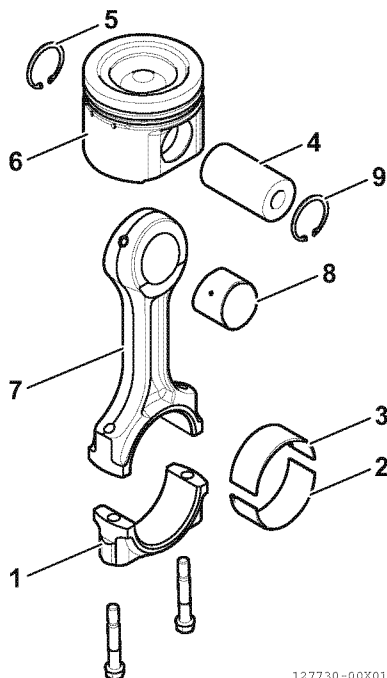

Fig.12-12
1. If the piston pin bearing (8, Fig.12-12) is removed, prepare a new piston pin bushing, and use a press and an appropriate service tool to attach while aligning the oil holes. Align the lubricating oil holes.
2. Attach one circlip (5, Fig.12-12) to the piston (6, Fig.12-12). Make sure that the circlip fits the groove.
4. Apply lubricating oil to the piston pin (4, Fig.12-12), and penetrate through the piston and connecting rod.
5. Attach the other circlip (9, Fig.12-12) and make sure it is securely seated in the groove.